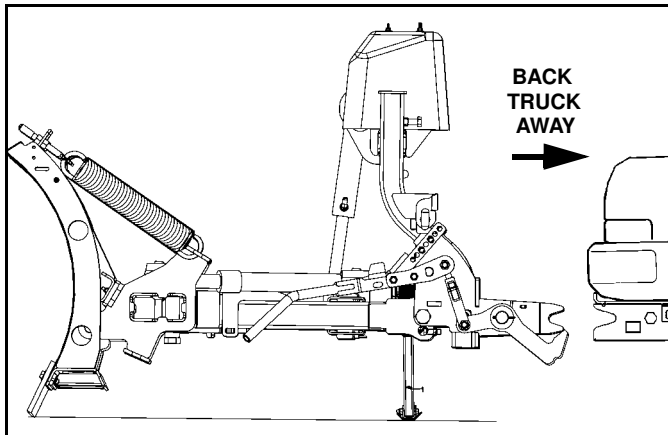

Figure 1-35
8. Back truck away from plow. (See Figure 1-35).